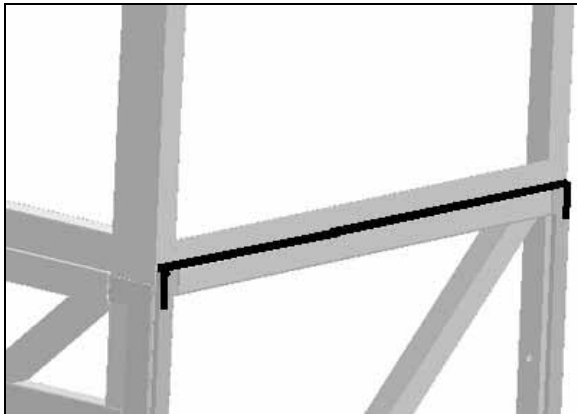

FIGURE 44 : SIDE PANEL INSTALLATION – SIKa 221 OR 252 APPLICATION ON STRUCTURE
5. Inspect the Sika bead shown in FIGURE 44. If it is damaged, remove adhesive residue and apply a new 5mm diameter bead of Sika 221 or 252;